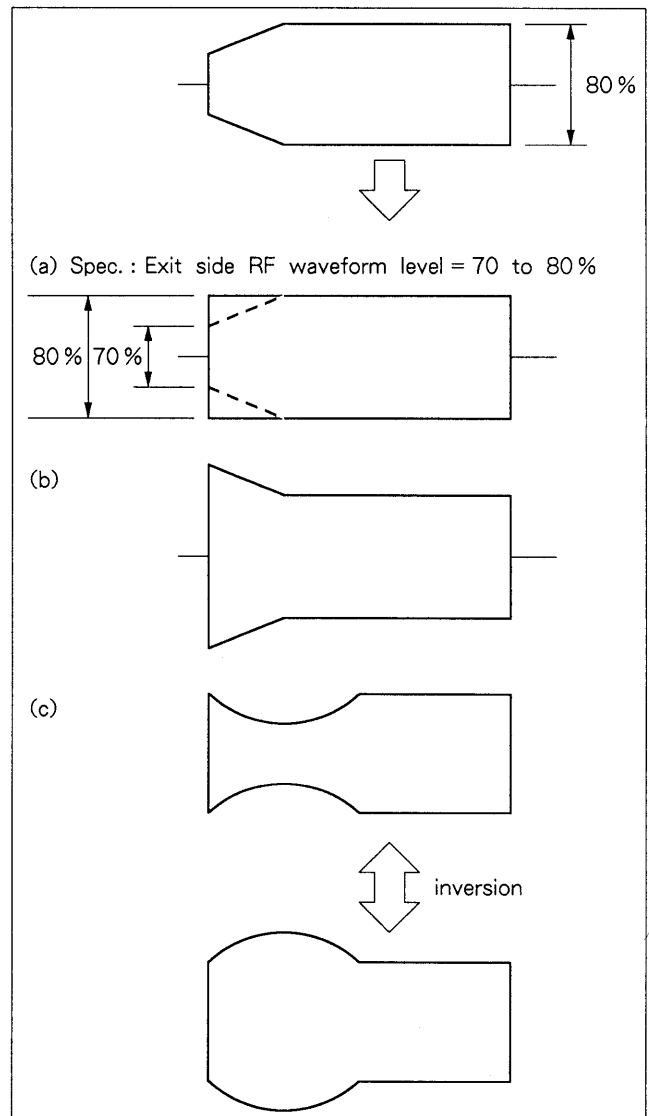

Fig. 9-5-17. Tape Exit Side RF Waveform (2)
28. Turn the cap of the taper guide in the clockwise direction and tighten it so that the RF waveform of the tape exit side shown in Fig. 9-5-17 becomes flat.